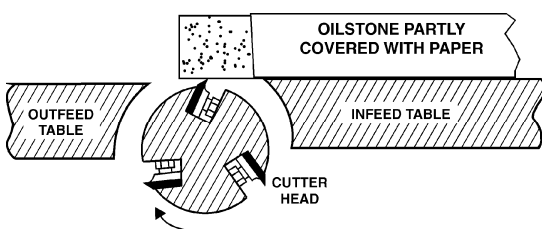

Figure 33
3. To protect the infeed table from scratches, partially cover the sharpening stone with paper. (Fig. 33)